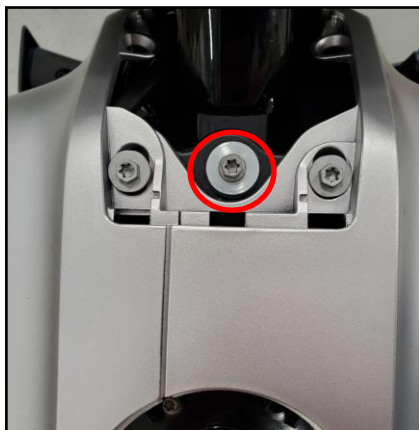

Fig. 14
17. Mount the tank on the motorcycle and connect the fuel line, fuel pump, and fuel level sensor. Torque the fuel tank mounting bolts to 10 Nm (Figure 14).